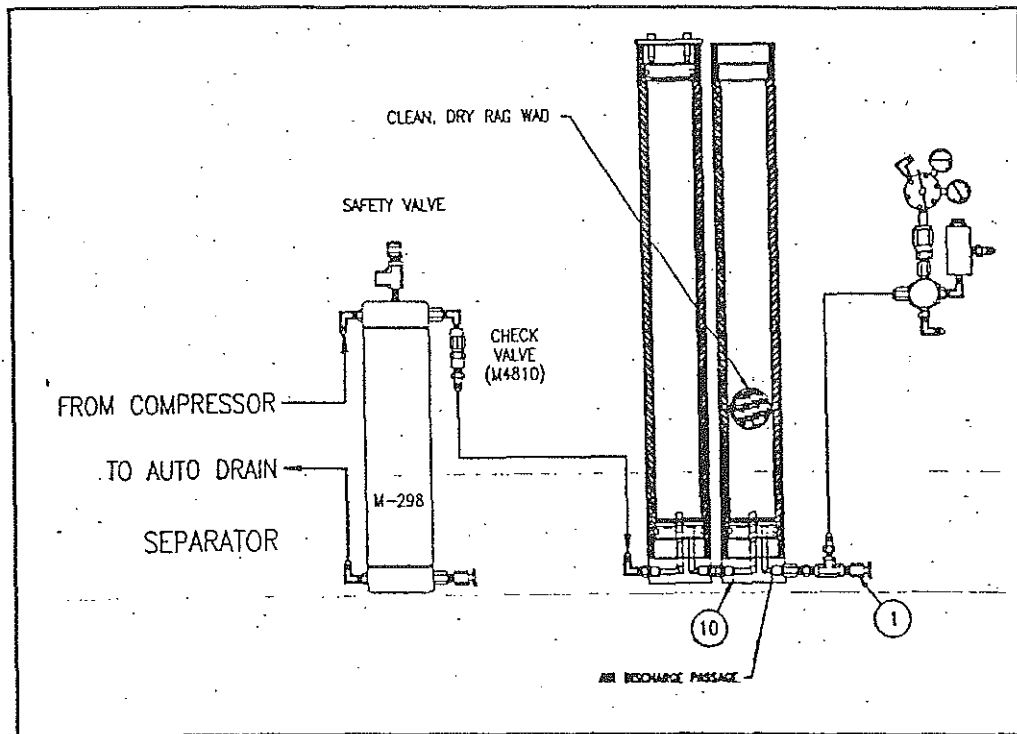

FIGURE 5-15 DRYING FINAL PASSAGEWAYS
16. Form a loose "wad" of clean, dry rags and push them in the second chamber (8) as shown in Figure 5-15.